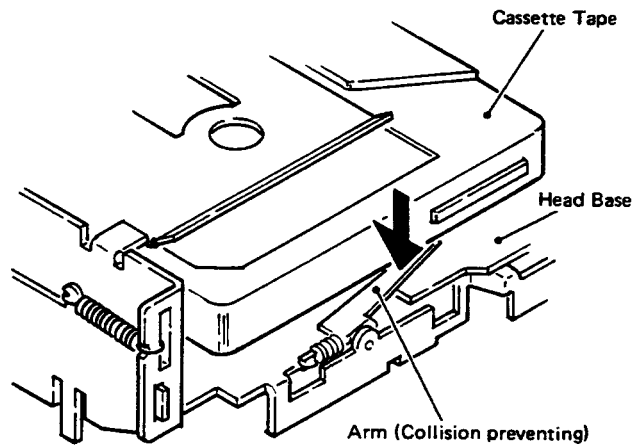

Fig. 9
(2) When a cassette tape is set, the arm of Fig. 9 (collision preventing) gets depressed, putting the head base in forward movable state.